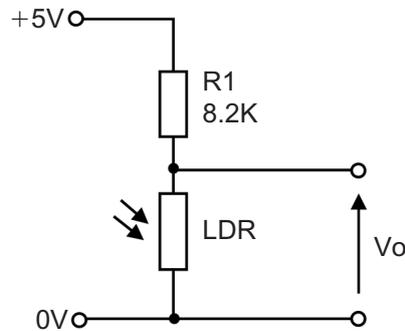

Fig. 1(a)
- 1 A voltage divider circuit consisting of a power supply, LDR and fixed resistor is shown in **Fig. 1(a)**.